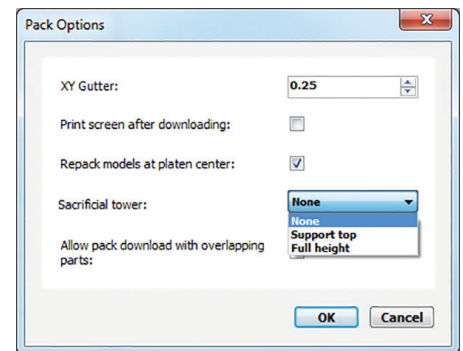

Figure 12: The Full height option is selected in the Sacrificial tower dropdown menu of the Pack Options.
STEP 2: In the Sacrificial tower options dropdown menu, select the **Full height** option (Figure 12).